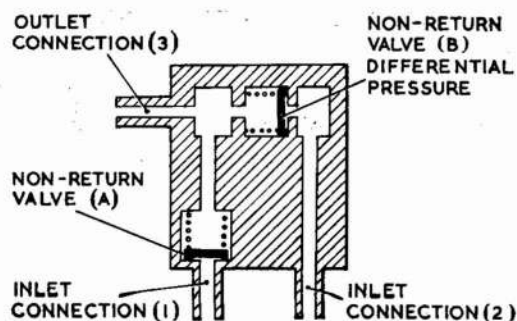

Fig. 8. Sectional view
15. Referring to fig. 8, gaseous oxygen from one container is supplied to the inlet connection (1) and from the other container to the inlet connection (2). Normally the gas flow is through the inlet connection (1), through the non-return valve (A) to the outlet connection (3), from which a